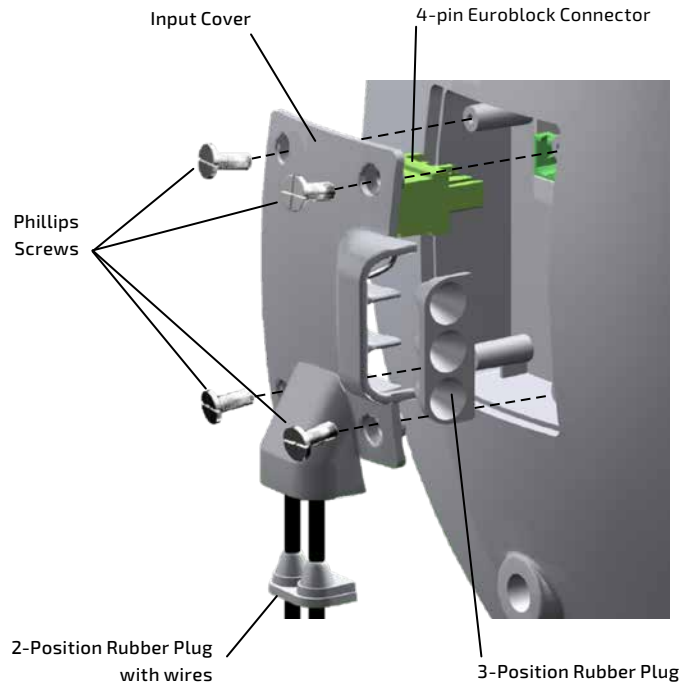

Figure 9. Install the weather cover
9. Maintaining cabinet orientation, use the 4 weather cover screws to secure the weather cover to the back of the cabinet (Figure 9).